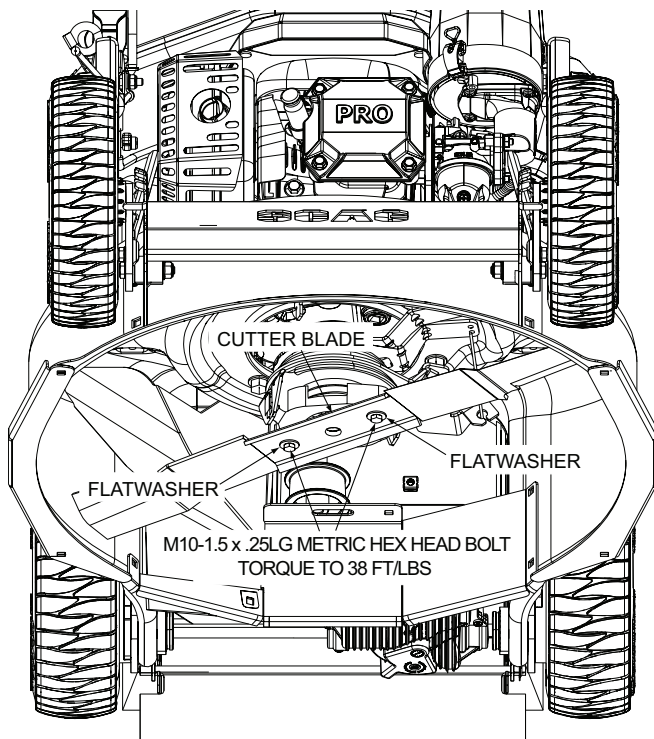

Figure 7-6. Blade Replacement
4. Secure the cutter blade to prevent it from rotating, remove the blade attaching bolts. Remove the cutter blade, bolts and flatwashers from the machine. See Figure 7-6.
- Install the cutter blade onto the machine. Secure the blades from rotating and torque to 38 ft/lbs. See Figure 7-6.